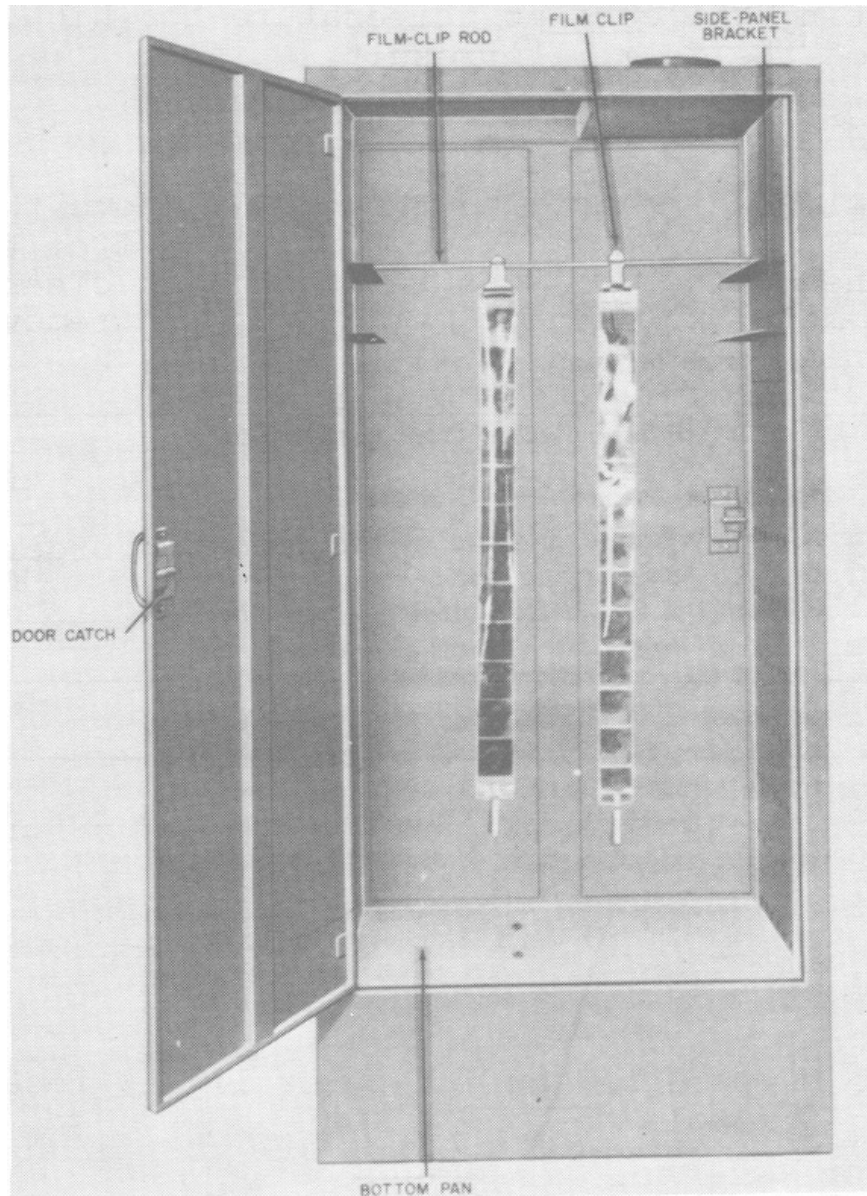

FIGURE 3-8. Roll film hanging from film clips.
- b. Hook a side-panel bracket into the row of vent holes (next to the top) on each side panel (figure 3-8). Note that the brackets will not fit into the top rows of holes.
e. Attach weights (figure 3-8) to the lower ends of the film strips to be sure that they hang straight and do not curl up when dried.